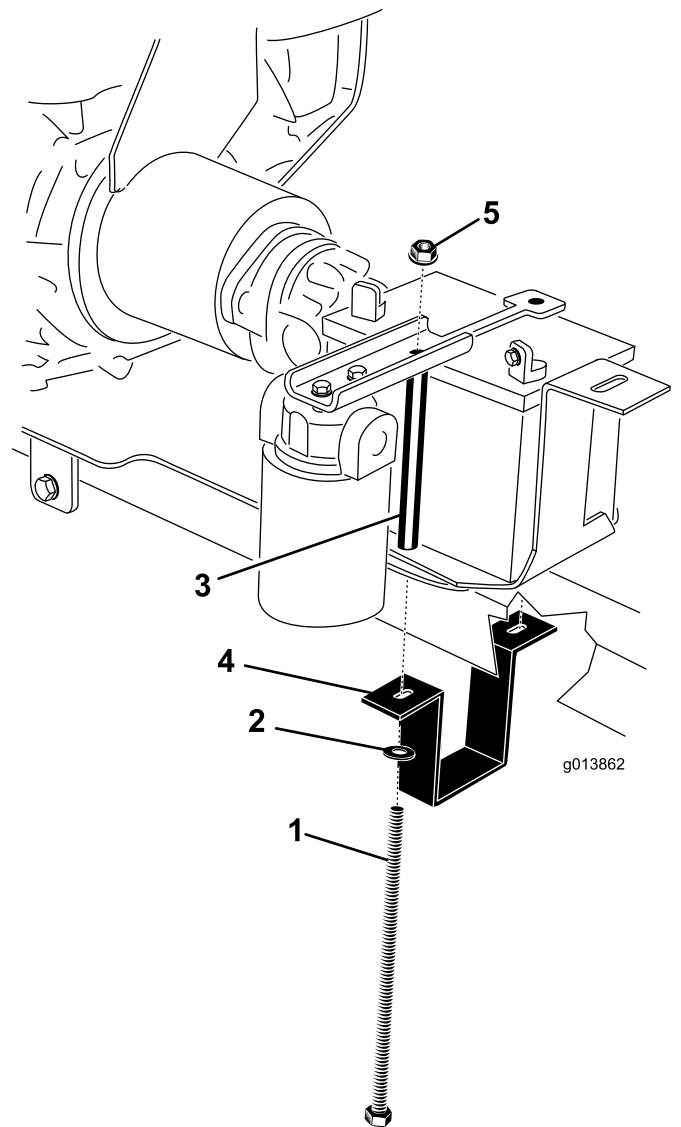

Figure 8
2. Mounting bolts (2)
22. Adjust the engine mount bracket so that it is tight to the hitch. Fully tighten the two bolts securing the engine mount brackets to the engine mounting plate (Figure 8).
24. Place the battery onto the battery tray, positioning the terminals as shown in Figure 8.
25. Position the battery hold down on the battery (Figure 8).
26. Hold the battery mount strap around the underside of the hitch tube (Figure 8).
27. On the right side, install a battery bolt through the washer, battery mount strap, engine mount plate, battery tray and hold down. Loosely install a flange nut (Figure 8).
28. On the left side, install a battery bolt through the washer, battery mount strap, engine mount plate, battery tray, battery bolt tube, and hold down. Loosely install a flange nut (Figure 8).